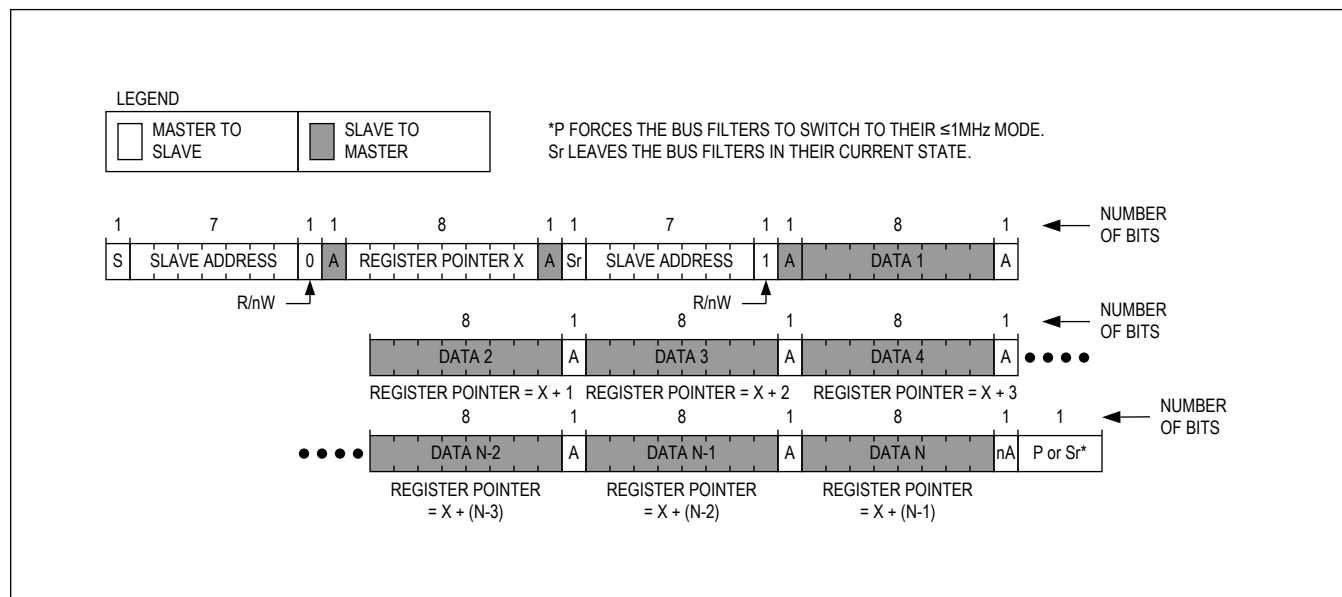

Figure 13. Reading from Sequential Registers
Figure 13 shows the protocol for reading from sequential registers. This protocol is similar to the Read Byte protocol except the master issues an ACKNOWLEDGE (A) to signal the slave that it wants more data—when the master has all the data it requires, it issues a not-acknowledge (nA) and a STOP (P) to end the transmission.